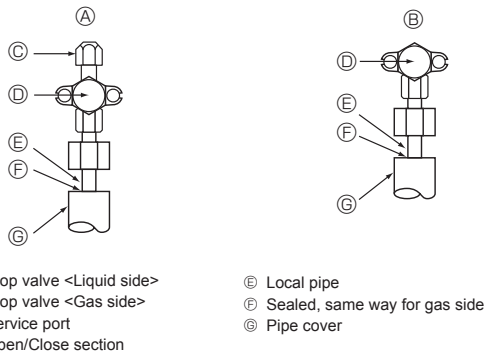

Fig. 4-4
4.4. Refrigerant pipe airtight testing method (Fig. 4-4)
- Make sure the stop valves (A) (B) are closed and do not open them.
- Add pressure to the refrigerant lines through the service port (C) of the liquid stop valve (A).
- If the pressure decreases in steps (2) or (3), there is a gas leak. Look for the source of the gas leak.